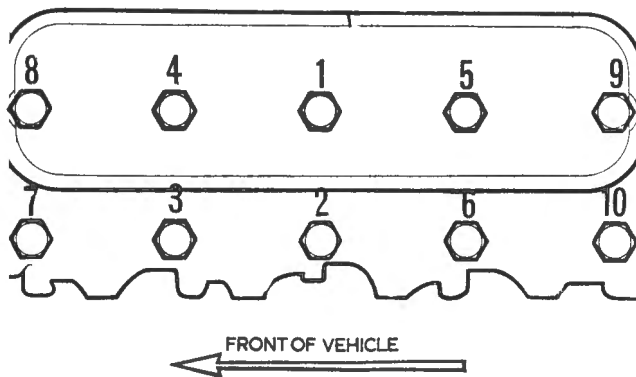

Fig. D-44
- 9 Slacken cylinder head bolts evenly in reverse to the tightening sequence. Fig. D-44.